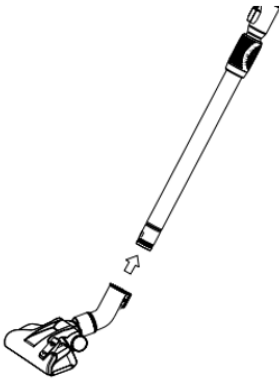

Fig. 3
3. **Fig.3: The connection of the tube and the brush tool:**